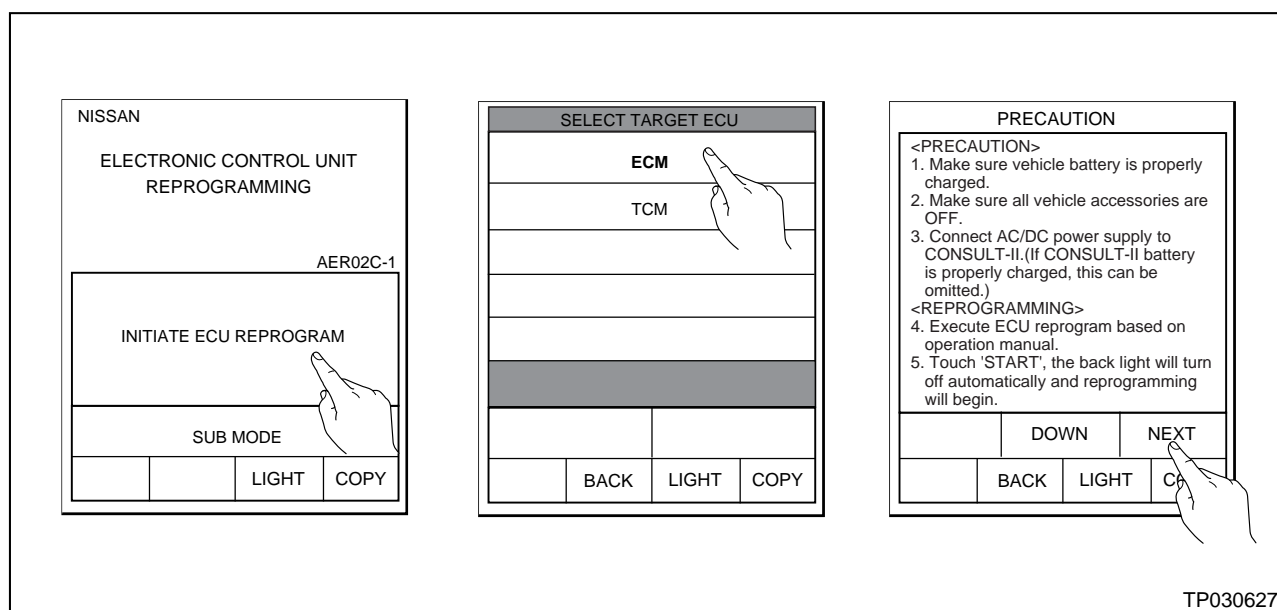

Figure 14
20. Press **INITIATE ECU REPROGRAM** (see Figure 14), then